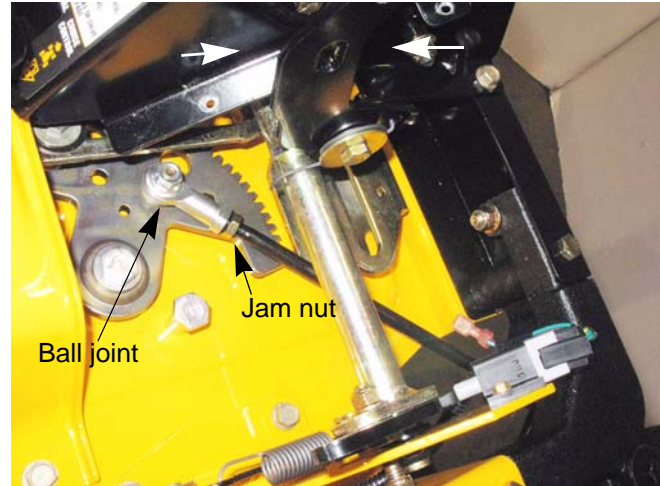

Figure 5.1
5. Disconnect the drag links from the segment gears using a pair of 9/16" wrenches. See Figure 5.1.